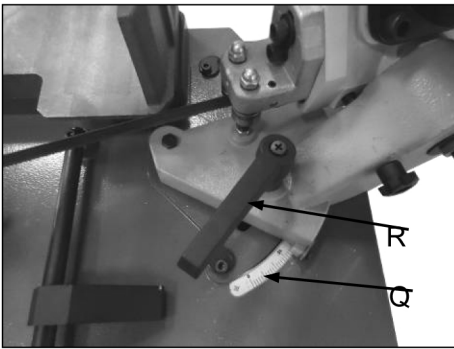

Fig. 7
The machine uses a swivel miter base for angle cutting from 0 ~ 60 degree. On the saw arm, there is an attached scale (Q) in Fig.7. This machine is preset zero degree before leaving the factory. Angle cutting is adjusted as follows.
1. Loosen handle (R) Fig.7 to release the arm.